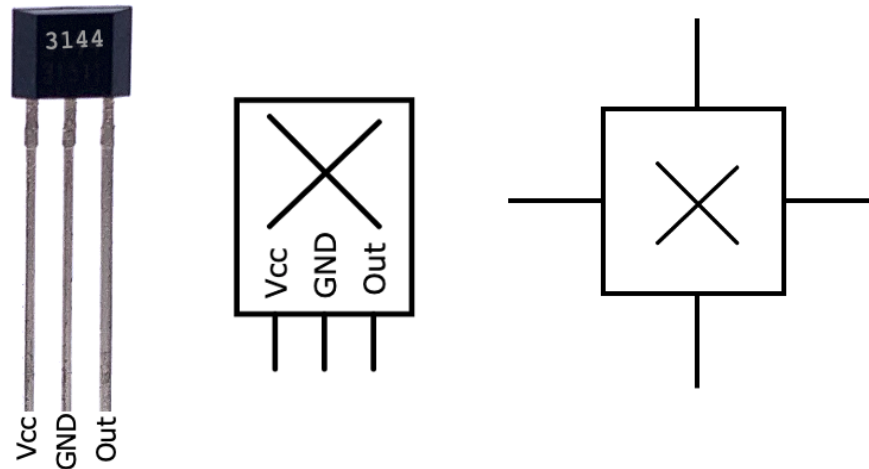

Figure 11.9 – Hall-effect sensor and symbols
*I have not included the ADS1115 wiring in Figure 11.9 or in the following stepped breadboard layouts. We have already seen how to connect an analog output to our Raspberry Pi using the ADS1115 in previous chapters – refer to Chapter 5, Connecting Your Raspberry Pi to the Physical World, and/or Chapter 9, Measuring Temperature, Humidity, and Light Levels, for example circuits and code using the ADS1115.*